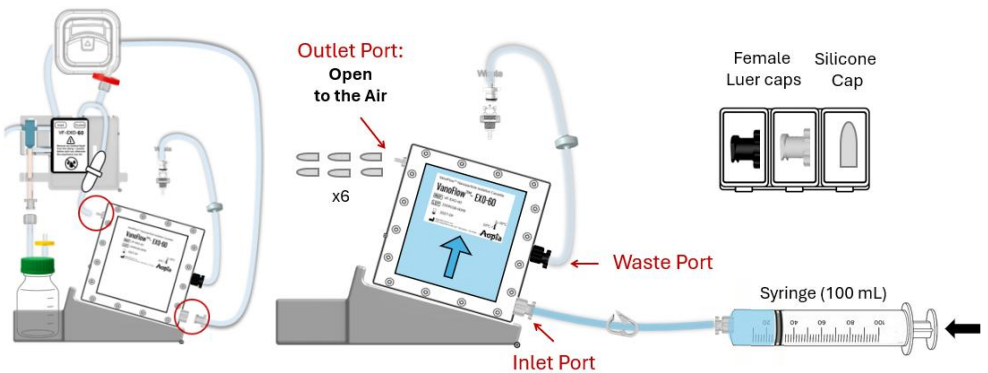

Figure 2 - Cassette storage for future use
- If planning to reuse the cassette, disconnect only the tubing indicated by **Red Circles** in Figure 2(left) and keep the other tubing connected.
- Using a **100mL syringe**, slowly inject **~100ml storage buffer** (0.05M HCl) into the cassette as shown in Figure 2(right). When the buffer reaches the Outlet Port, cap the **Outlet Ports** (x6) with silicone caps (x6).